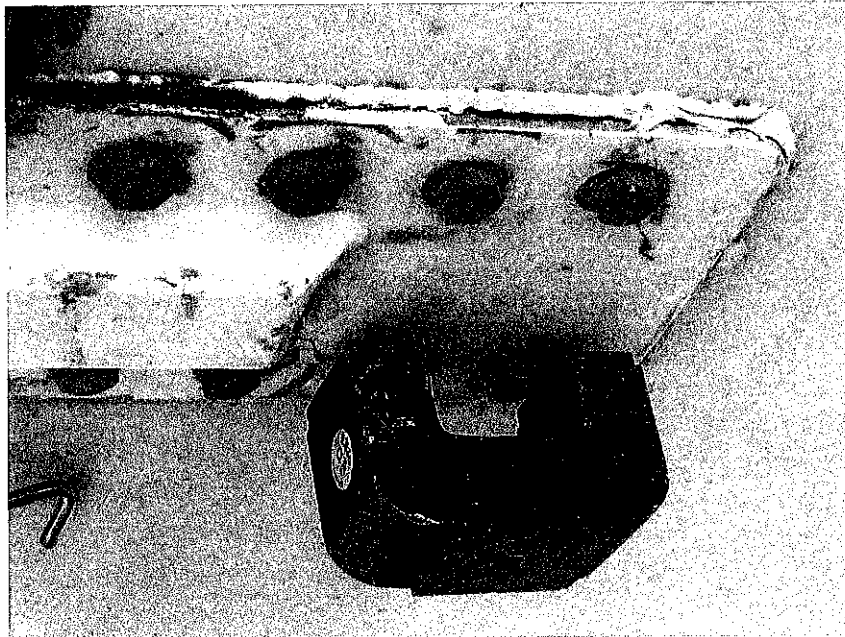

Figure 2 Ferrous bolts should be replaced with stainless. This piece is on the starboard "A" frame under side.
2. Figure 2 Repair items. Several bolts on the A frame starboard side are ferrous and should be replaced with a stainless version.